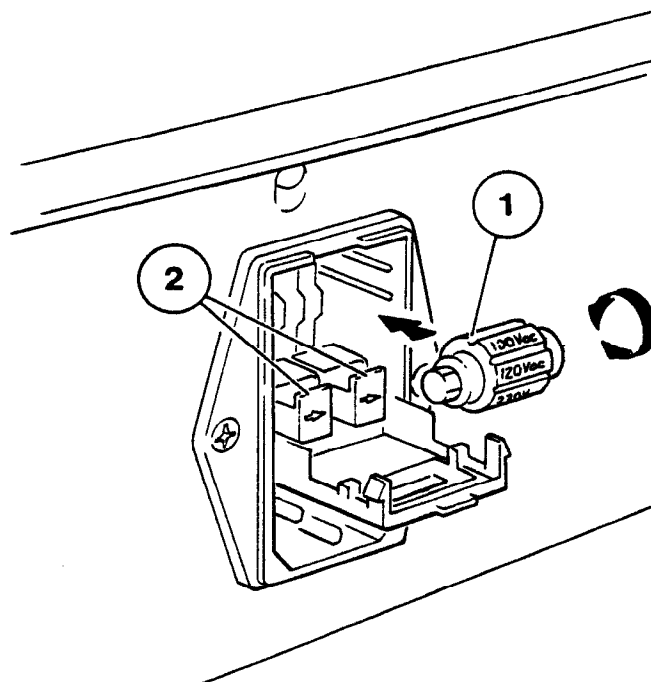

Figure 2.5 Voltage Selector
20. Check that the voltage shown on the voltage selector is correct for the local supply. If it is not, open the voltage selector compartment. Slide the voltage selector bobbin, item 1, Figure 2.5 out of the instrument and replace it so that the required voltage setting will be visible through the window of the compartment cover. Close the compartment cover.